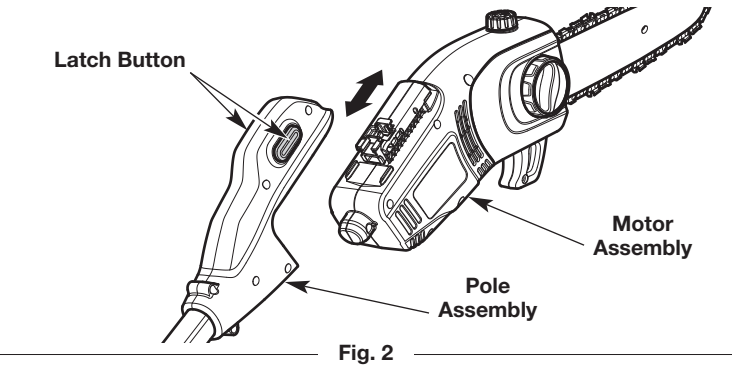

Fig. 2
3. **Connect the motor assembly to the pole assembly (Fig. 2):** Press and hold the latch buttons on both sides of the pole assembly. While continuing to press the latch buttons, slide the motor assembly onto the pole assembly. Release the latch buttons and gently pull the assemblies to make sure they are completely connected.
3. **Disconnect the motor assembly from the pole assembly (Fig. 2):** Press and hold the latch buttons on both sides of the pole assembly. While continuing to press the latch buttons, slide the motor assembly off of the pole assembly.